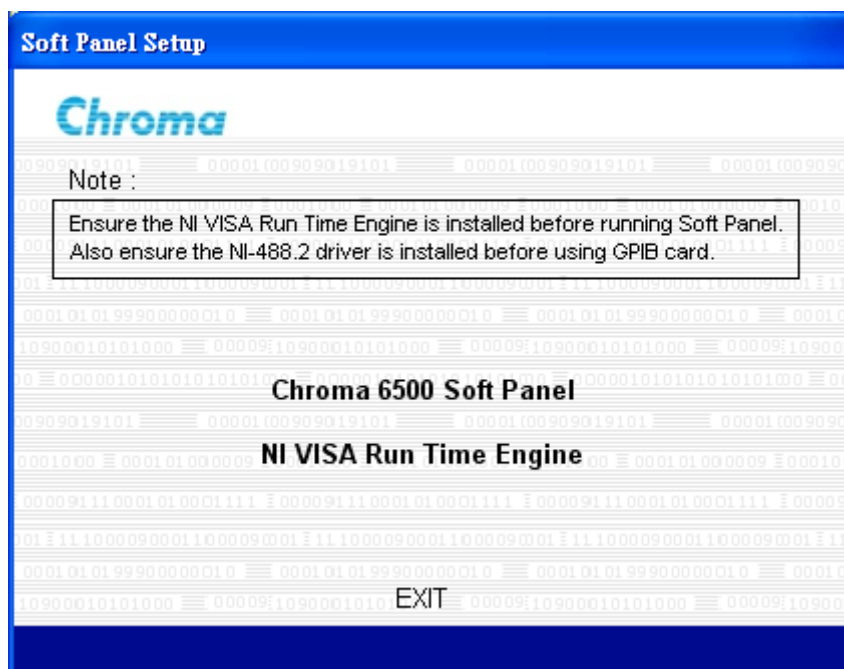
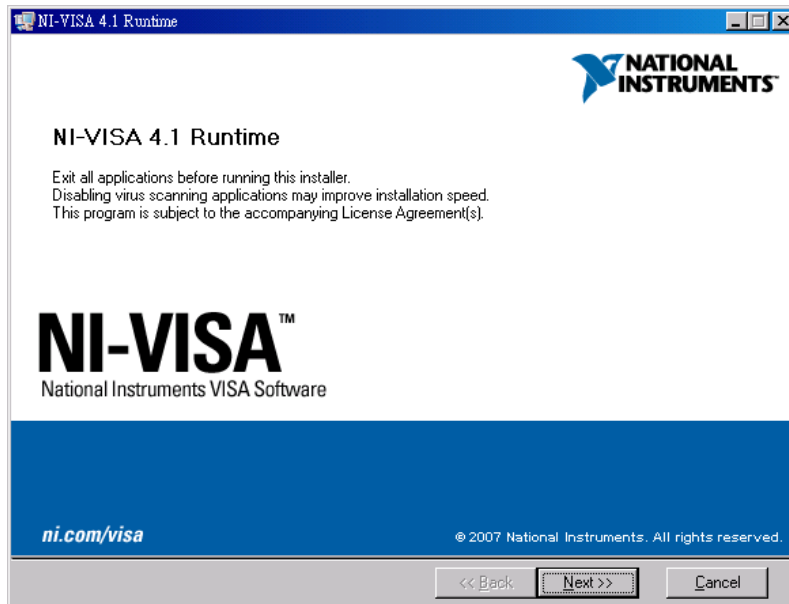

Figure 2-2 65XX Soft Panel Installation Setup Main Screen
Figure 2-7 Installation Screen of NI VISA Ver. 4.1 Driver
Please execute Setup.exe file in CD to start the installation. The installation main screen appears as Figure 2-2. Click “**Chroma 6500 Soft Panel**” to proceed with the installation.
1. To install NI VISA 4.1 driver, double-click **NI VISA Run Time Engine** in Figure 2-2 and after the program is initialized, it will prompt the installation as Figure 2-7 shows.